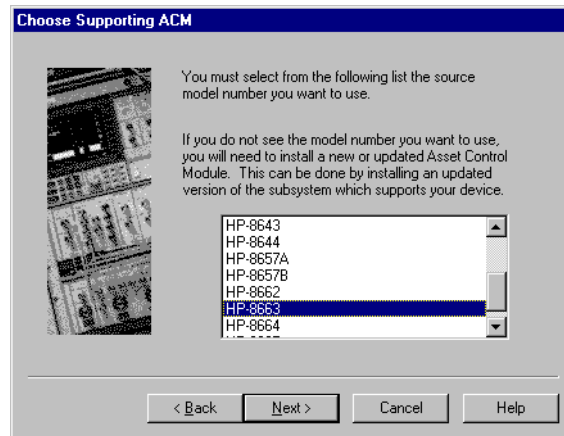

Figure 5-5 Chose Source to be Added
- 7 Click on the source to be added, then click the **Next** button. See Figure 5-5.